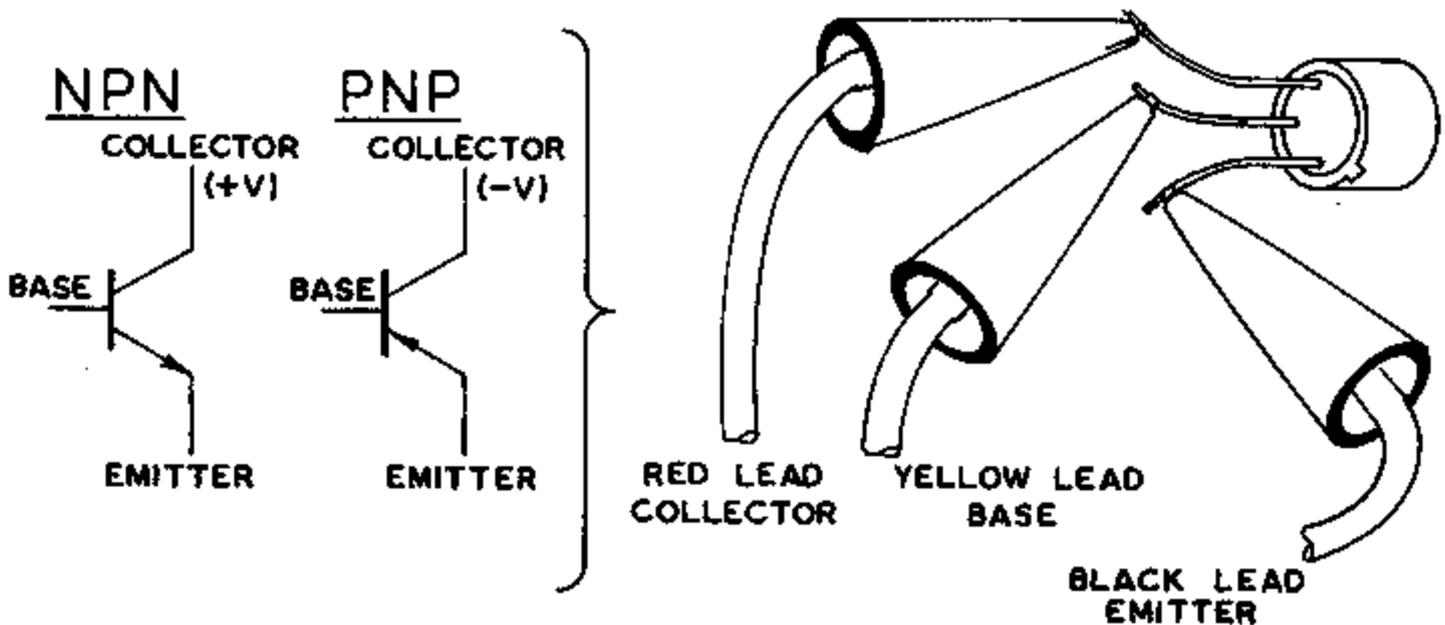

Figure 1. Connecting to transistor for in-circuit and out of circuit testing.
3. Connect the black lead from the E jack (black) to the emitter of the transistor. See Figure 1 for steps 1, 2 and 3.